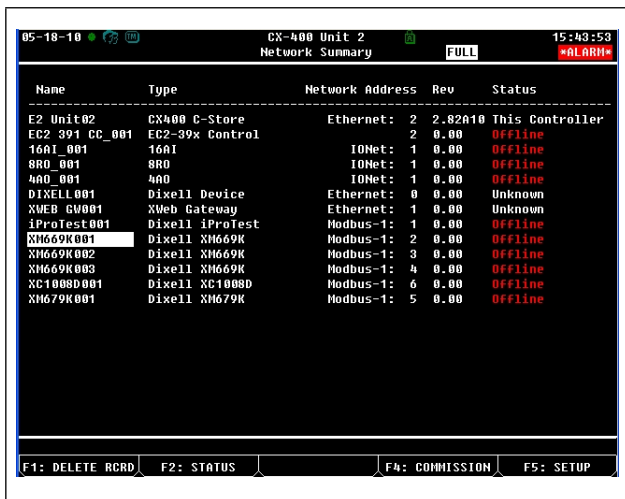

Figure 19-8 - Network Summary Screen
8. When finished, press  to return to the **Network Setup** menu, then press  - **Network Summary** (Figure 19-8). Locate the devices you set up, and look at each device's status in the **Status** field. You will see one of the following messages: